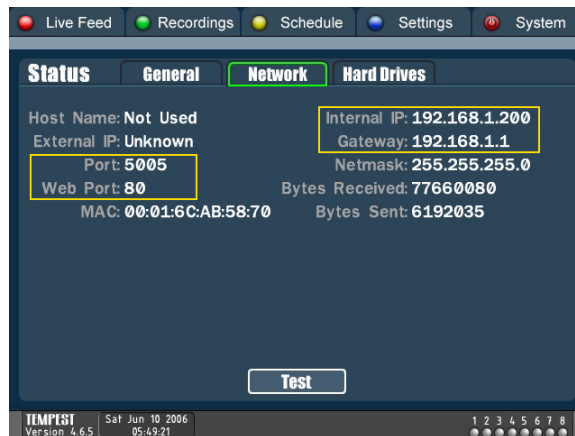

Figure 24. Network Status Menu
1. Lookup the **Internal IP**, **Interceptor Port**, **Web Port**, and **Gateway** of your DVR. These can be found by navigating to the **Settings > Status > Network**, as shown in Figure 24. Write these settings down.